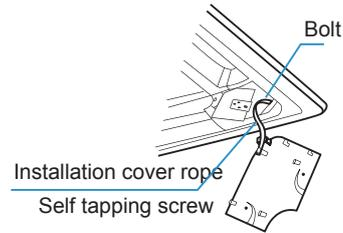

Figure 4.24
- (1) Secure the installation cover rope onto the bolt on the installation cover with screws. See Figure 4.24